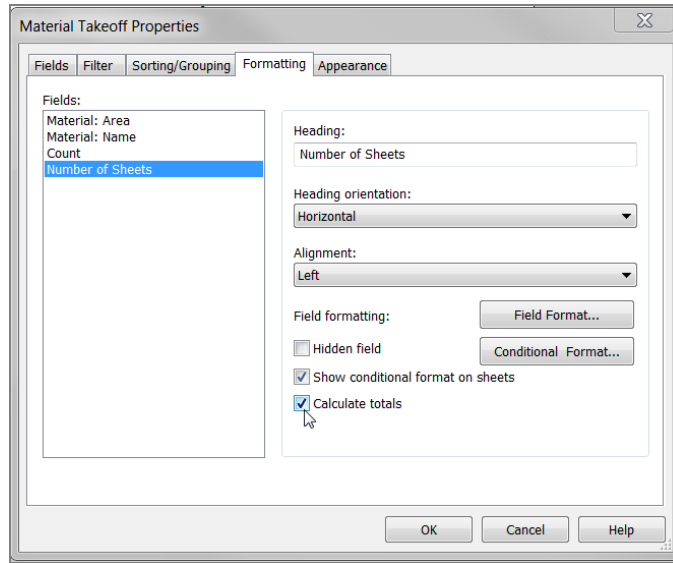

FIGURE 11.36: Selecting the Calculate Totals option
9. Select the Formatting tab, as shown in Figure 11.36.
11. In the Field Formatting section, select Calculate Totals (see Figure 11.36).